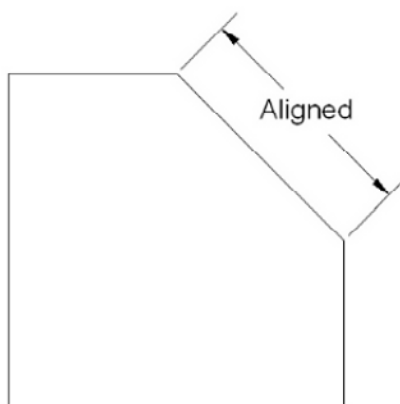

Figure 6.3 – Aligned dimension
- **Aligned Dimension** – This is a dimension that measures a slanted line or object (Figure 6.3).
Create a small to medium size rectangle or square and chop off a corner as seen in Figure 6.3. Then begin the aligned dimension command via any of the above methods.